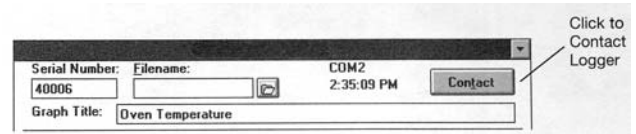

FIGURE 5
1. Click Edit Setup. (See figure 5).